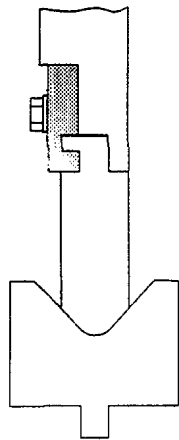

FIGURE 14
1. To align tools, lower the ram until the punch tip contacts die bottom (Figure 14).